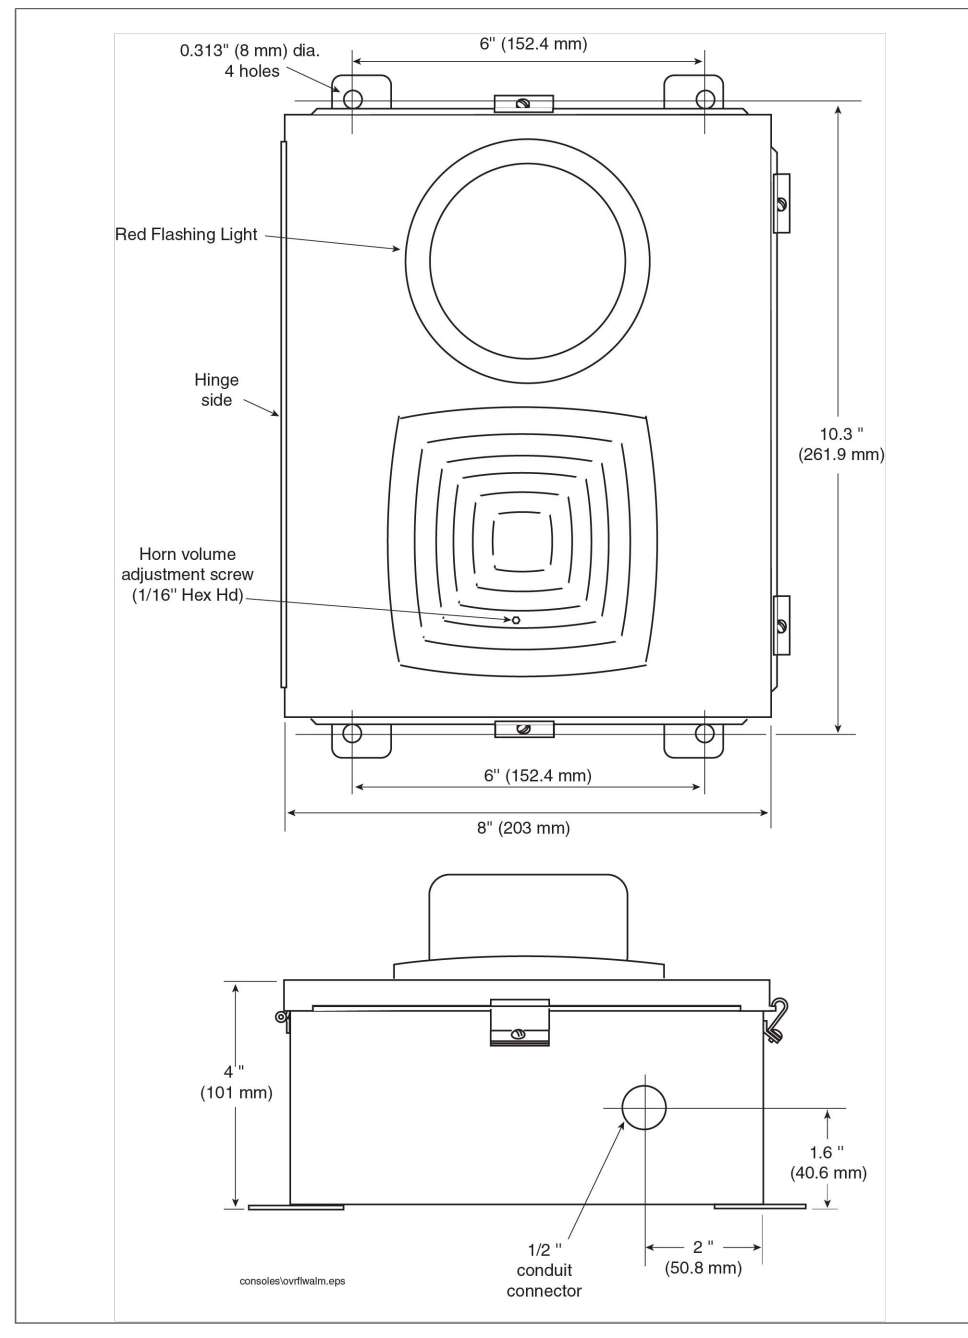
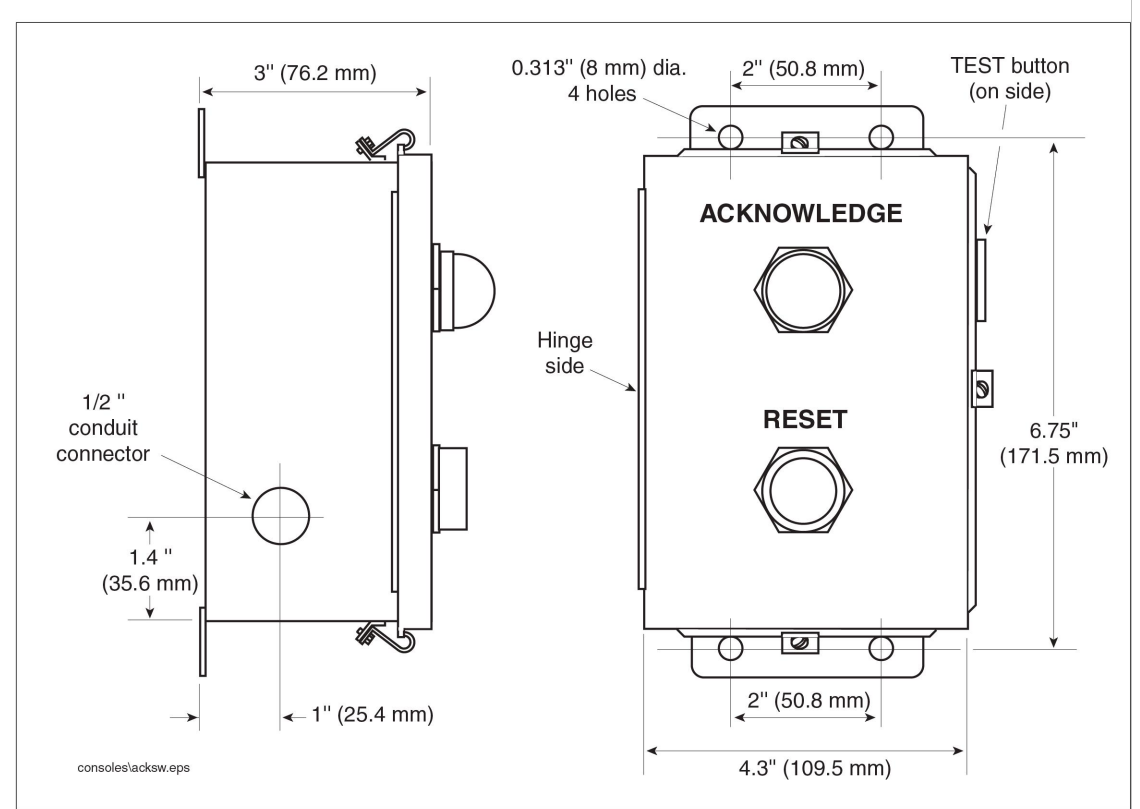

Figure 1. Overflow Alarm mounting dimensions
Figure 2. Acknowledgement Switch mounting dimensions
Figure 1 shows the Overflow Alarm mounting dimensions and Figure 2 shows the Acknowledgement Switch mounting dimensions.
2. Locate and mark mounting holes using the hole pattern in Figure 1.
2. Locate and mark mounting holes using the hole pattern in Figure 2.